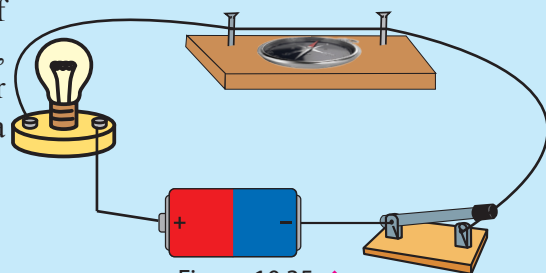

Figure 10.35 ▲
- Fix two iron nails at the corners of the piece of plank as shown in Figure 10.35.